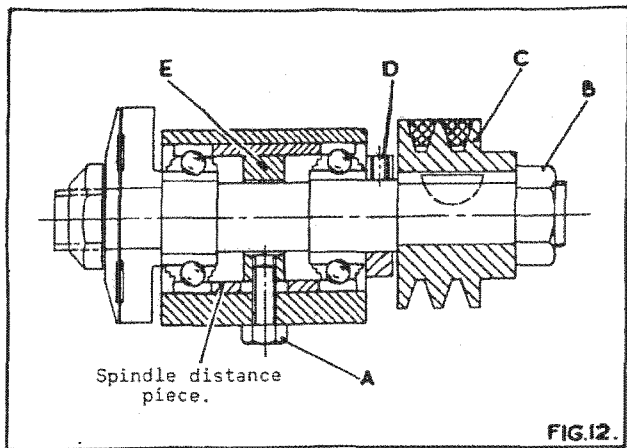

FIG. 12.
1. Loosen the hexagon head adjuster bolt "A" in Fig. 12, and tap spindle where required, taking care not to damage the threads on the spindle end. Place a steel rule along both sides of riving knife to check whether the saw is central.
3. Now working from the pulley end of the spindle. Remove the 1" fine thread nut (right hand thread) "B" in Fig. 12, remove spindle pulley "C" which is keyed to the spindle.
The bearings should now be replaced as the arrangement in Fig. 12. Care should be taken not to pre-load the bearings, i.e. the spindle distance piece should be just free between the two bearings.